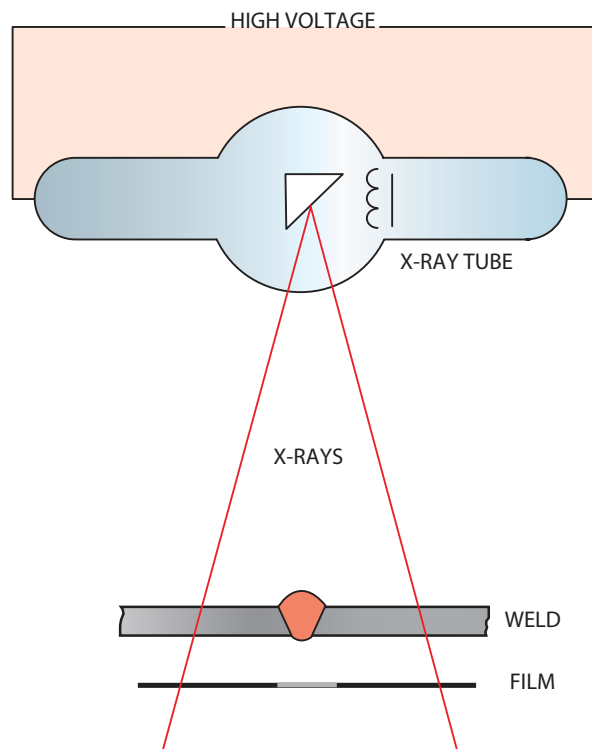

FIGURE 30-38 Schematic of an X-ray system. © Cengage Learning 2012
Radiographic inspection (RT) is a method for detecting flaws inside weldments. Radiography gives a picture of all discontinuities that are parallel (vertical) or nearly parallel to the source. Discontinuities that are perpendicular (flat) or nearly perpendicular to the source may not be seen on the X-ray film. Instead of using visible light rays, the operator uses invisible, short-wavelength rays developed by X-ray machines, radioactive isotopes (gamma rays), and variations of these methods. These rays are capable of penetrating solid materials and reveal most flaws in a weldment on an X-ray film or a fluorescent screen. Flaws are revealed on films as dark or light areas against a contrasting background after exposure and processing, Figure 30-38.